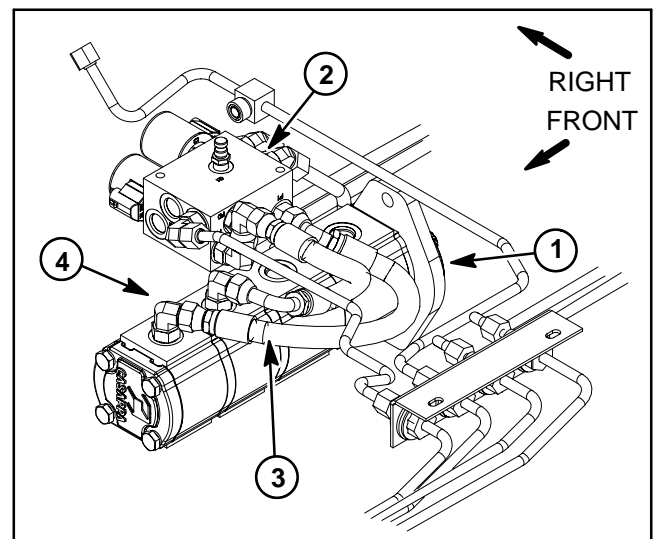

Figure 50
1. Make sure hydraulic oil is at normal operating temperature by operating the machine under load for approximately ten (10) minutes. Make sure the hydraulic tank is full.
3. Thoroughly clean junction of fitting and hydraulic hose at the last gear pump section which supplies the engine cooling fan circuit (Fig. 50).